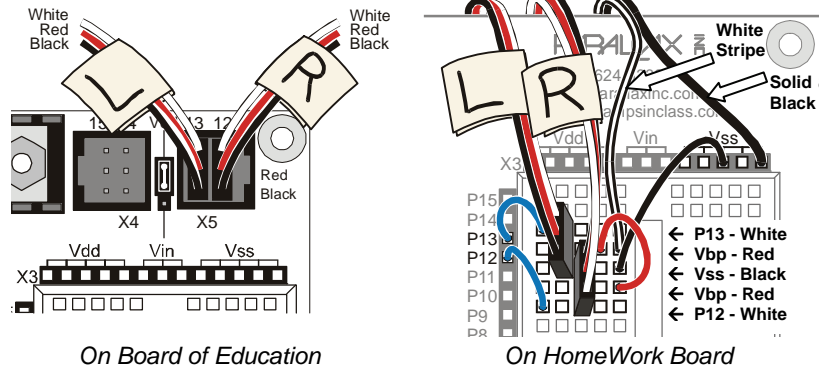

Figure 3-10
Figure 3-10 shows the servo ports reconnected for both the Board of Education (left side) and the HomeWork Board (right side).
- ✓ Double-check your servo connections Figure 3-10 on page 81 as a guide. If you are using a HomeWork Board, you may also want to take a second look at Figure 2-18 on page 47.